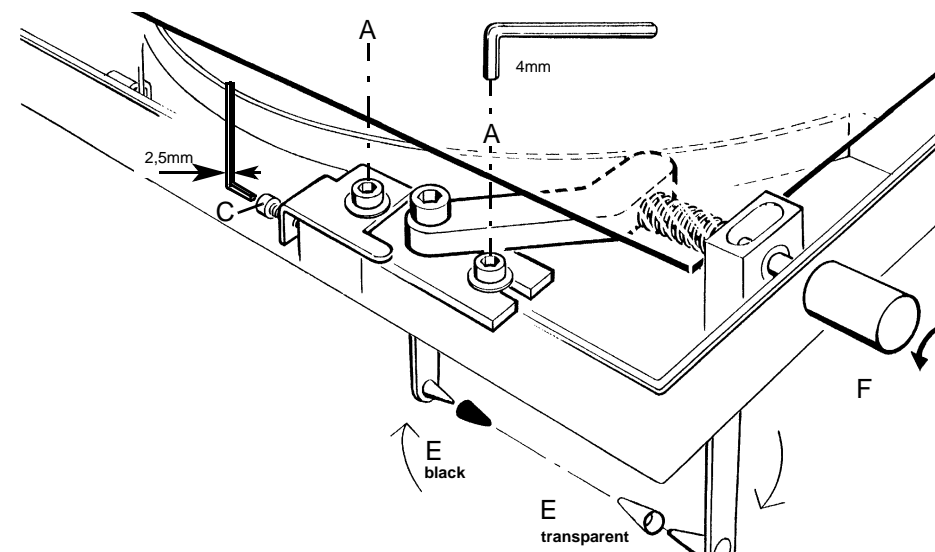

Fig.14: Head support can be swiveled
- Loosen the locking screw. ☞ See Fig. 14: Head support can be swiveled